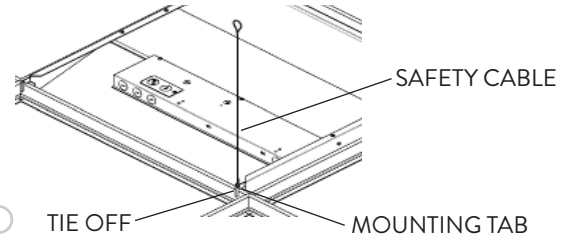

FIG. 9
- 5 Use a Safety Cable (hanger wire) to 'tie-off' at the Tabs (Screws and Hanger Wires supplied by others) (Fig. 9).